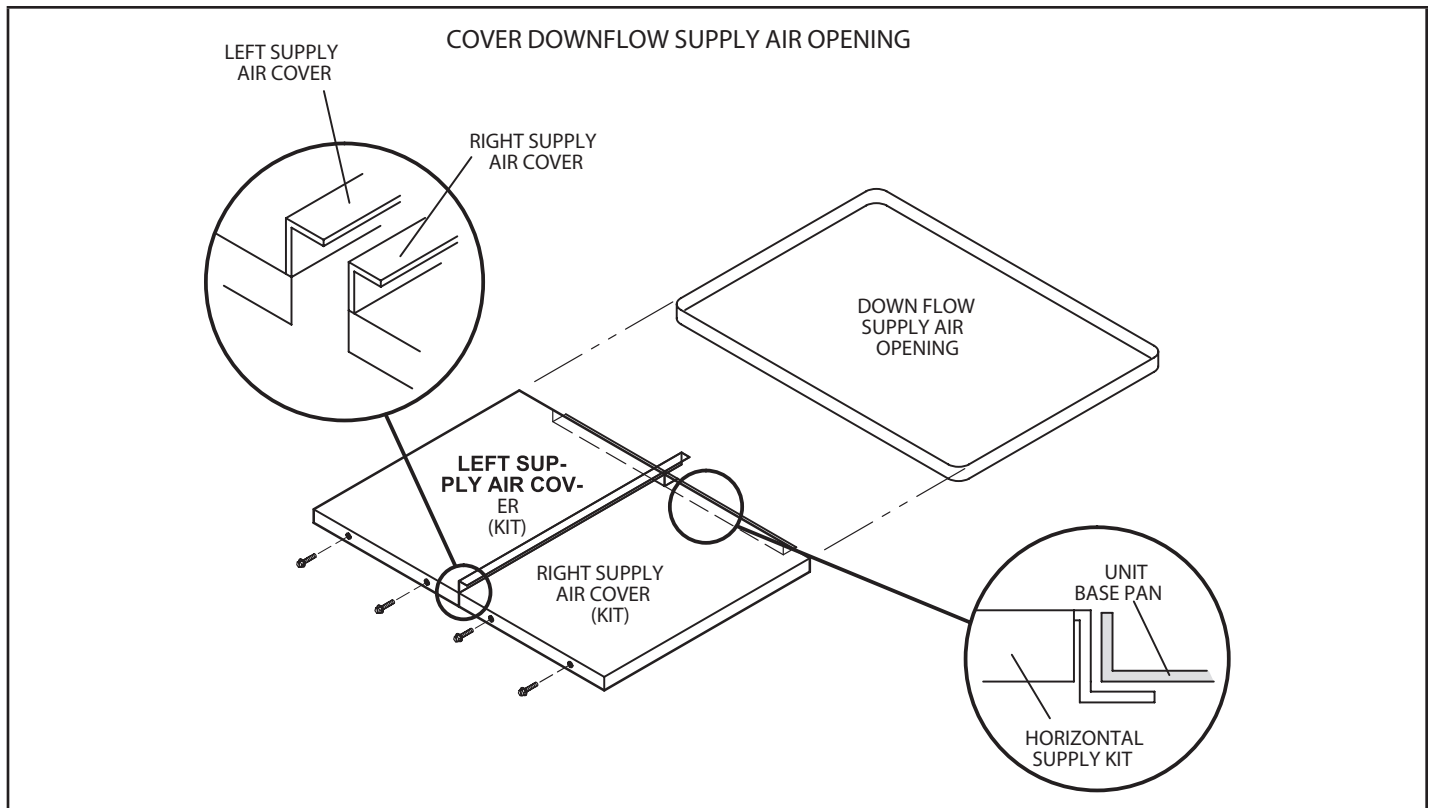

FIGURE 4
- 3 - Install the supply air covers over downflow supply air opening. Center flanges will overlap and rear flanges fit underneath unit base pan. Secure cover in place with 4 screws provided. See FIGURE 3 and FIGURE 4.
- 8 - Install the supply air covers over downflow supply air opening. Center flanges will overlap and rear flanges fit underneath unit base pan. Secure cover in place with 4 screws provided. See FIGURE 3 and FIGURE 4.